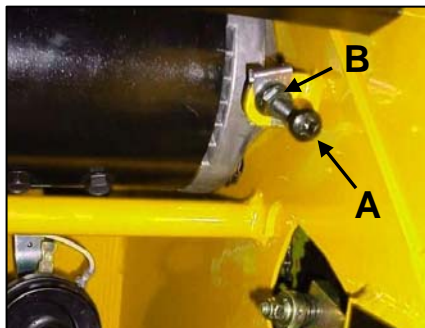
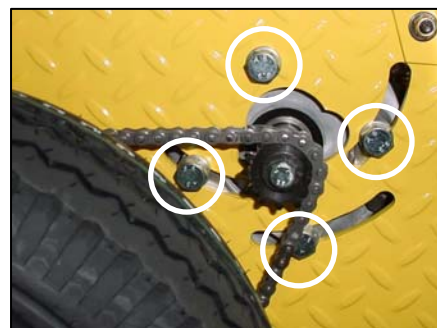
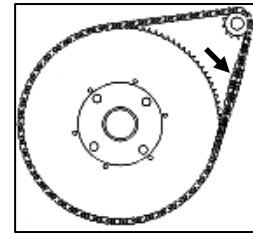

Figure 4.4.1
Figure 4.4.2
Figure 4.4.3
- See Fig. 4.4.1. On right side of vehicle below kneepad, loosen jam nut (B) and the drive motor adjustment screw (A).
- Loosen the four (4) drive motor mounting bolts (Fig. 4.4.2).
- Loosen the 4 drive motor mounting bolts (Fig. 4.4.2) and jam nut on the drive motor adjusting screw. Turning motor adjusting screw towards motor will tighten drive chain. Turning adjusting screw away from motor will loosen drive chain. With motor mounting bolts tight, proper chain deflection is no more than 0.50' (1/2 inch). See arrow Fig. 4.4.3.
- Torque motor mounting bolts to 150 inch pounds and tighten the jam nut (Fig. 4.4.1 B) on motor adjusting screw.
- Loosen the four motor mounting bolts (Fig. 4.4.2) and nut on the motor adjusting bolt (Fig. 4.4.1). Loosen the motor adjusting screw several turns.
- Once in place, install the top motor mounting bolt first, then install the remaining three motor mounting bolts (Fig. 4.4.2). Do not tighten.